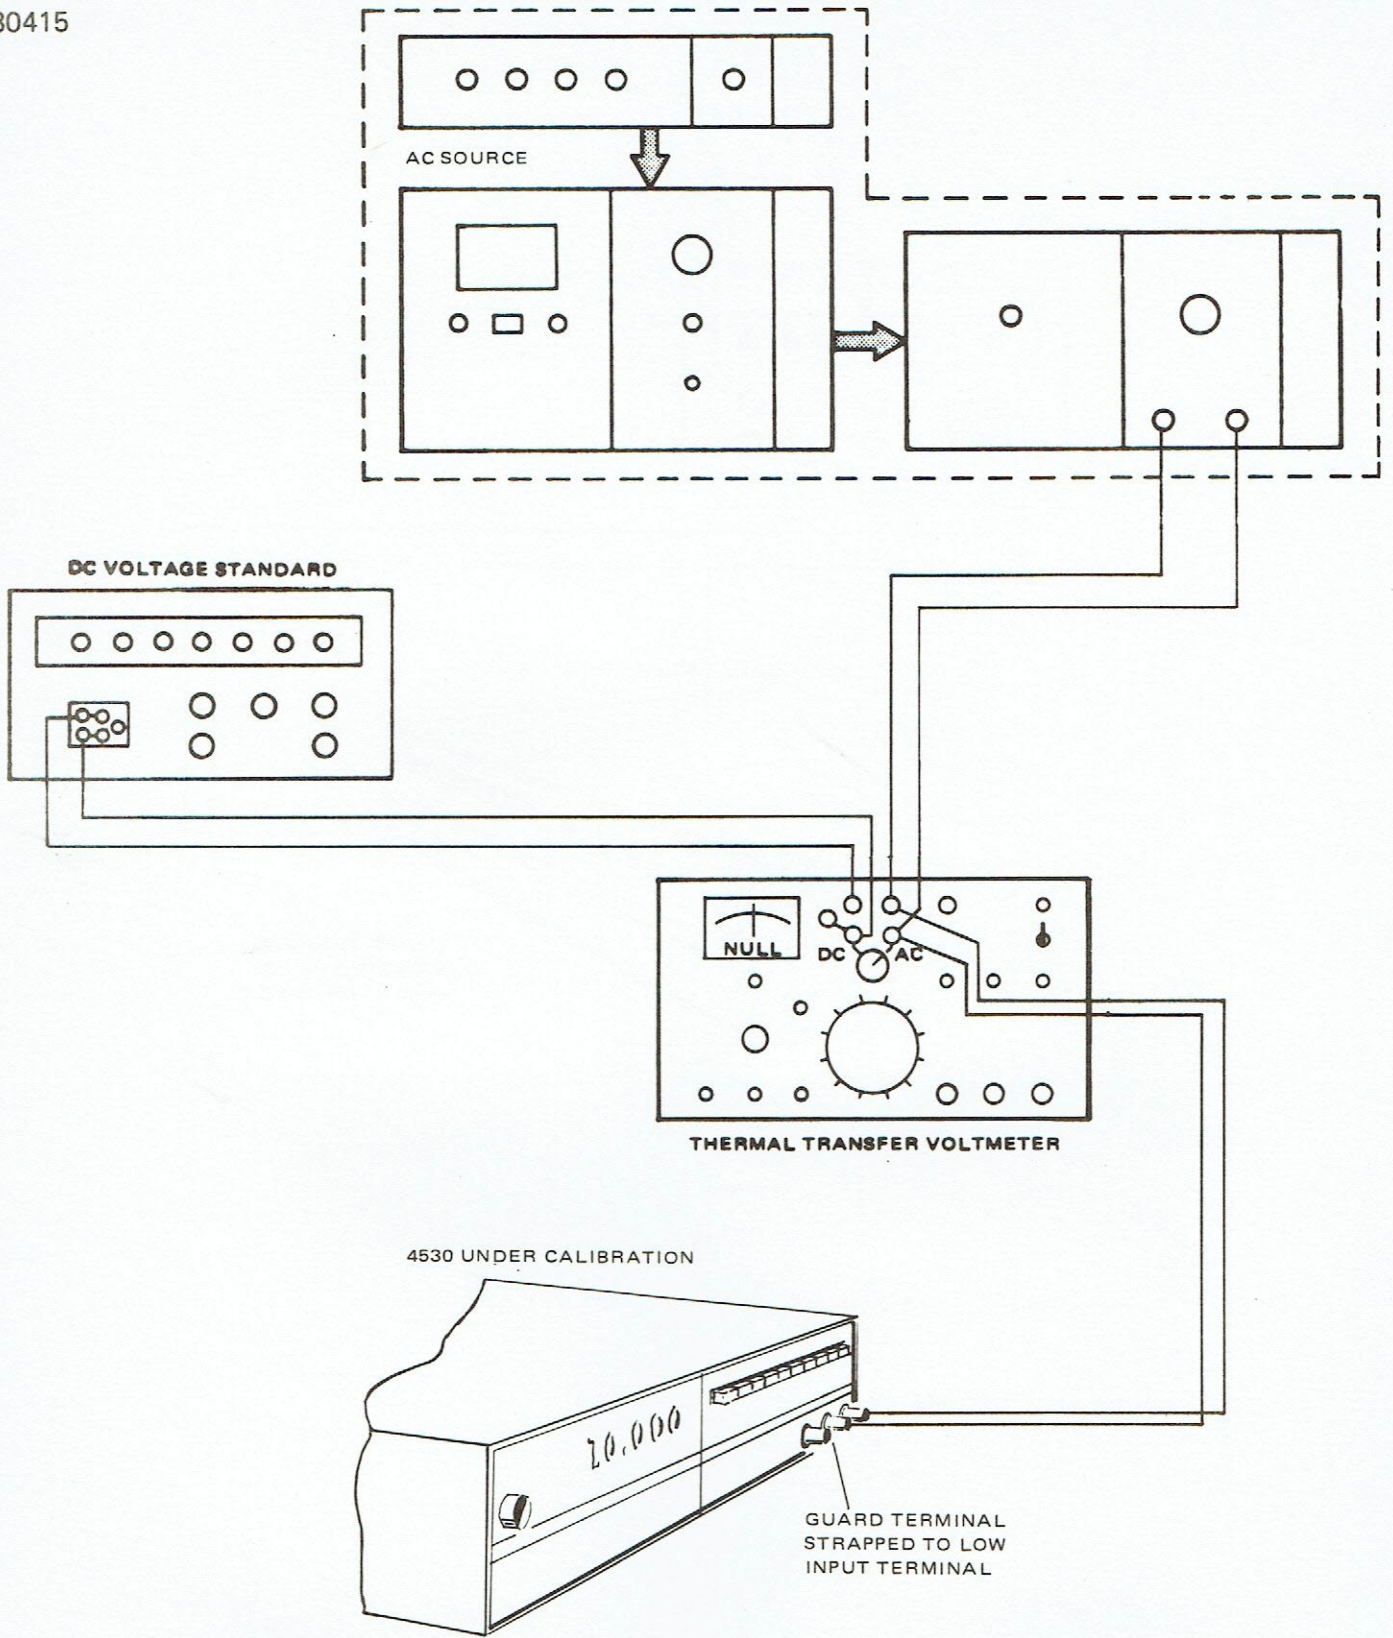

Figure 5.5 - Setup for AC calibration
- (b) Connect the DC voltage standard, thermal transfer voltmeter, AC laboratory source, and the DMM under calibration, as illustrated in figure 5.5.